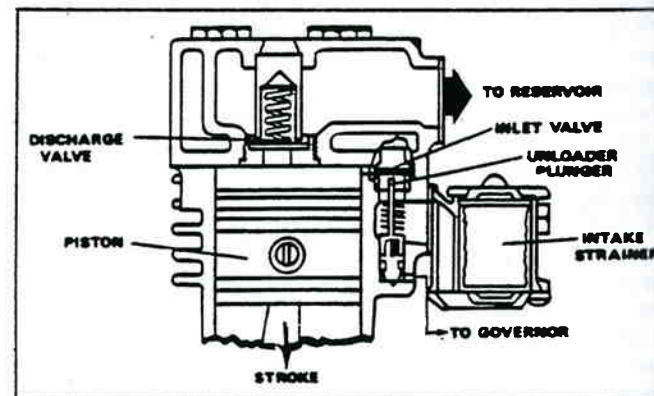
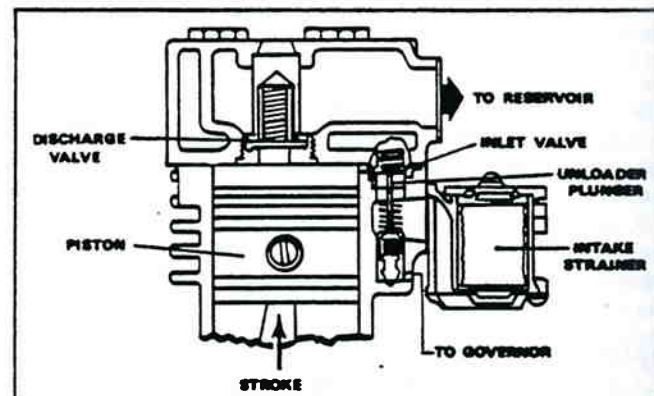

Figure 4-7. Intake Stroke Beginning.
Figure 4-8. Compression Stroke Ending.
A. INTAKE AND COMPRESSION (Loaded): During the downstroke of the piston, a slight vacuum created above the piston causes the inlet valve to move off its seat. Atmospheric air is drawn in through the compressor intake, past the open inlet valve, and on top of the piston. See figure 4-7. As the piston starts its upward stroke, the air is compressed. Now, air pressure on top of the inlet valve plus the force of its spring, returns the inlet valve to its seat. The piston continues the upward stroke and compresses the air sufficiently to overcome the discharge valve spring and unseat the discharge valve. The compressed air then flows past the open discharge valve, into the discharge line and on to the reservoirs. Refer to figure 4-8. Intake and compression cycle is repeated.